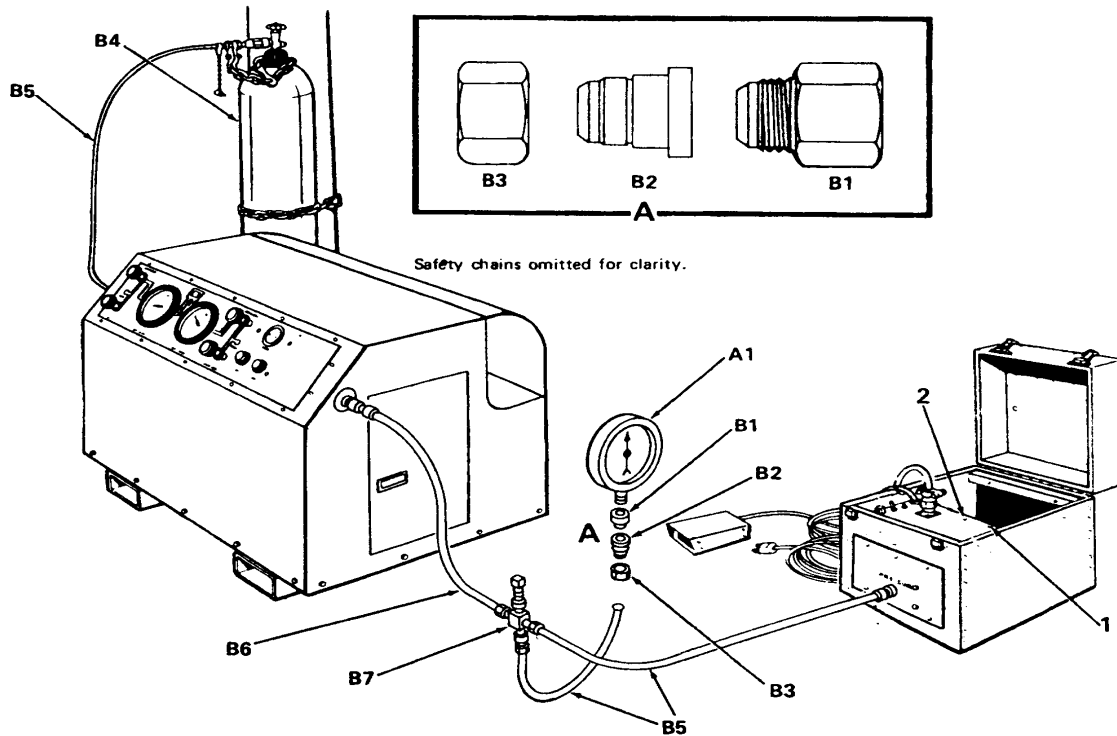

Figure 1. Equipment Setup.
Serious injury may result if you fail to observe safety precautions. The TI calibration should be performed in a well ventilated room. High pressure gas (up to 6000 psi) exists when performing the TI calibration procedure. Gas bottle (item B4, table 3 and figure 1) must be secured to a building column, carrying cart, or any available upright object to minimize movement of bottle should its gas supply be unintentionally released. The wrenches used in this procedure must be open-end type, not more than 8 inches long. Wrenches more than 8 inches long can cause excessive tightening to over stress or break fittings, which can result in personal injury. Do not attempt to tighten fittings with system pressurized.
Anti-seize tape MIL-T-2773 must be applied to the threads of Adapter B1, figure 1, to prevent miscalibration due to leakage. The tape must not overlap the initial thread or cross threading may, occur.
b. Connect equipment as shown in figure 1. Connect hose assemblies (B5 and B6) using $\frac{1}{2}$ and $\frac{9}{16}$ inch wrenches; tighten securely. Set aside transducer fitting protective cap.
(1) Connect the TI power cable to the 115 volt, 50 to 400 Hertz (Hz) power source. Set the TI power ON/OFF control to ON.
(2) Observe that the red power indicator illuminates. If not, verify power and check the TI fuse. Let the TI warm up for 10 minutes.
b. Adjustments. Adjust the zero control, (1, figure 1) under the plastic access hole cover until the TI digital readout indicates a 0 psi reading. (R)
(2) Press the ON button on GPU. When OUTLET PRESSURE on Precision Test Gage indicates 5,000 psi, press OFF switch.
(3) Using leak detecting liquid (B8), squirt some drops around all output gas system fittings.
(4) Visually inspect for gas bubbles indicating leakage. If leaks are detected, perform step **9a(5)** below. If not, perform step **9a(6)** below.
(5) Close (CW) OUTLET SHUTOFF and open (CCW) OUTLET BLEED valves on GPU. When outlet pressure is bled to 0 psi, tighten leaky fittings. Close (CW) OUTLET BLEED and open (CCW) OUTLET SHUTOFF valves on GPU. Perform steps **9a(2)** through **9a(4)** above.
(6) The TI digital readout shall indicate 5,000 \pm 200 psi. If not, perform step **9b** below.
b. Adjustments. Adjust the TI span control, (2, figure 1.) under the plastic access hole cover until TI digital readout indicates the same pressure level as the Precision Test Gage (A1). (R)
- a.** Close (CW) valve on Argon gas supply bottle (B4).
- b.** Close (CW) INLET SHUTOFF and OUTLET SHUTOFF valves on GPU.